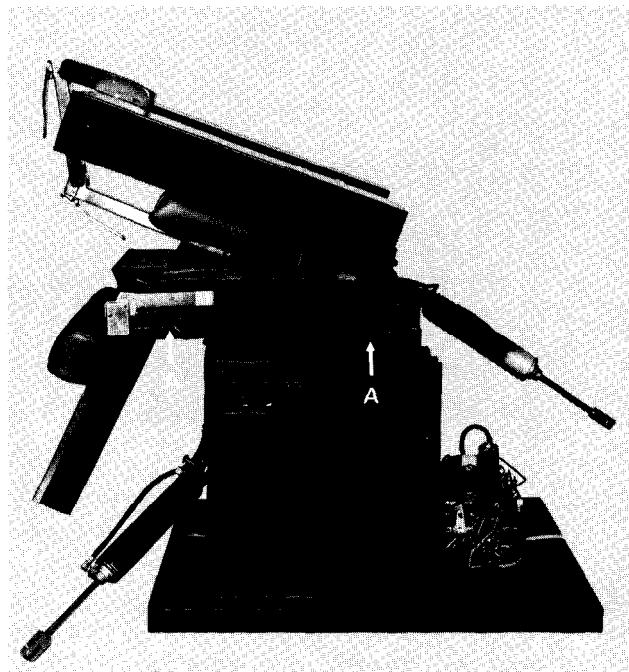

Fig. 24
- 10) Lower the back section against the seat section, with protection between. (See Fig. 24). With an assistant, remove table top section from base by lifting on points A shown in Fig. 24, one man on each side. Set table top on floor.
24) With an assistant, replace table top by lifting on points A shown in Fig. 24 with
back section folded onto seat section as shown in Fig. 24 and place on base section. Be sure hose bundle fits into slot of seat section. While seat section is resting on base section, lift back section up and while holding this up, line up 6 bolt holes and attach (6) 1/4-20 x 5/8" bolts with 7/16" socket wrench.